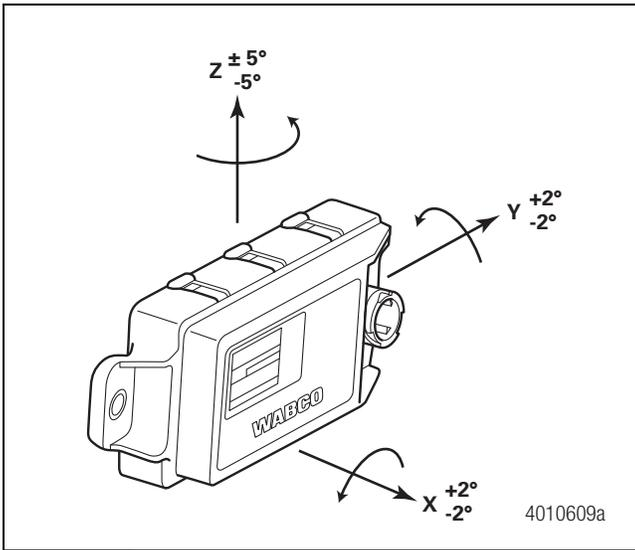

Figure 4.16
4. Disconnect the wiring harness connector from the ESC module. Figure 4.15 and Figure 4.16.